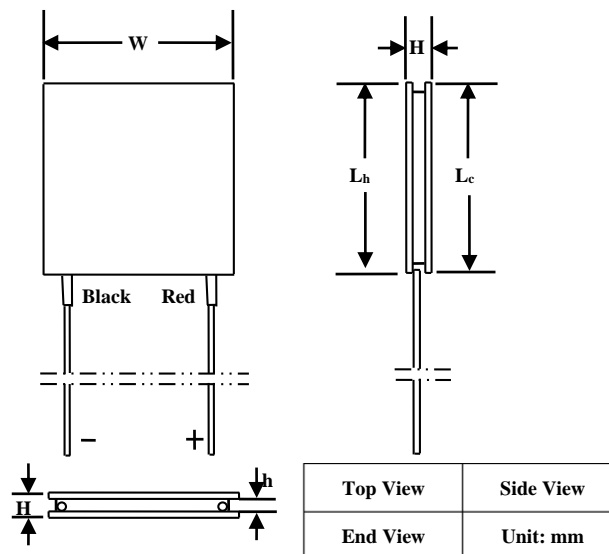

Figure 6. Mechanical Dimensions of Sealed ATE1-TC-127-7R8AS
**Note:** As Figure 6 shows, when the red lead wire is on the right, then the top surface is the cold side of the TEC.